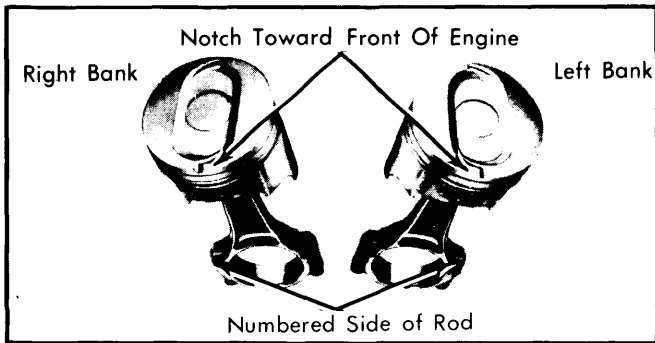

Fig. 9 Piston and Connecting Rod Assembly
2) Install piston into respective cylinder bore with notch in piston head towards front of engine. Carefully push piston into cylinder until it is slightly below top of cylinder. Install connecting rod bearings. Coat bearings and crankshaft journal with oil. Pull piston and rod assembly down onto journal and install rod cap. Install rod cap nuts and tighten. See Fig. 9.